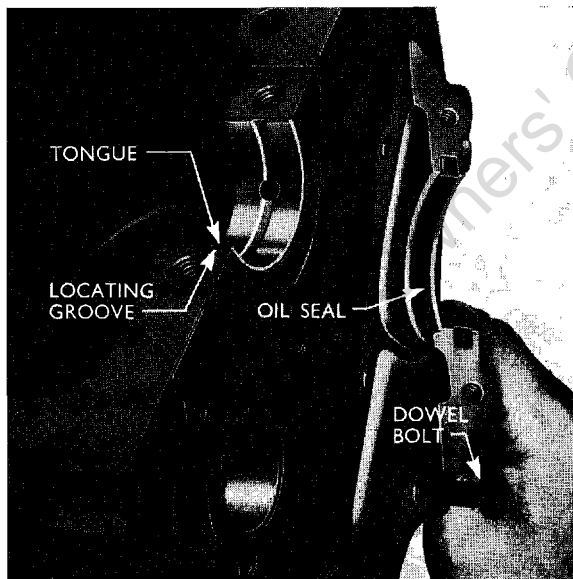

Fig. 18
(c) **Fit a new oil seal housing gasket** to the rear face of the cylinder block and secure the housing to the block with four spring washers and the correct bolts, see Fig. 18. Note that the two bolts adjacent to the sump flange are dowel bolts to ensure correct alignment and these must be "nipped" first. Equally tighten the four bolts.
4. (a) **Position the upper halves of the main bearing liners** in their block locations. Wipe clean the liner locations in the block and fit the liners so that the locating tongues engage the machined locating grooves, see Fig. 18.